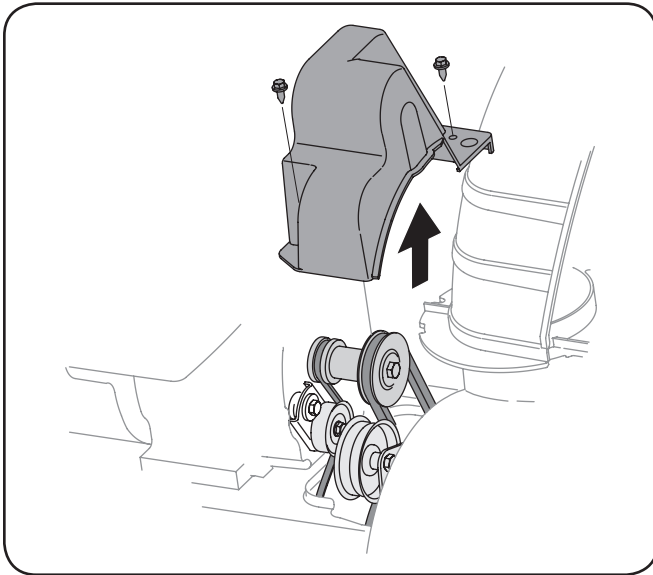

Figure 7-1
2. Remove the plastic belt cover on the front of the engine by removing the two self-tapping screws. See Figure 7-1.
- Remove the plastic belt cover on the front of the engine by removing the two self-tapping screws. Refer to Figure 7-1.